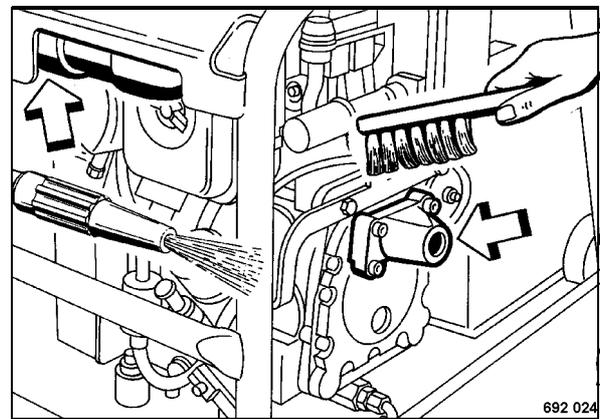

Fig. 69
- Clean all air guiding parts and the entire cooling air circulation area like cylinder head, cylinder and flywheel ventilator with a brush and blow out with compressed air (Fig. 69).